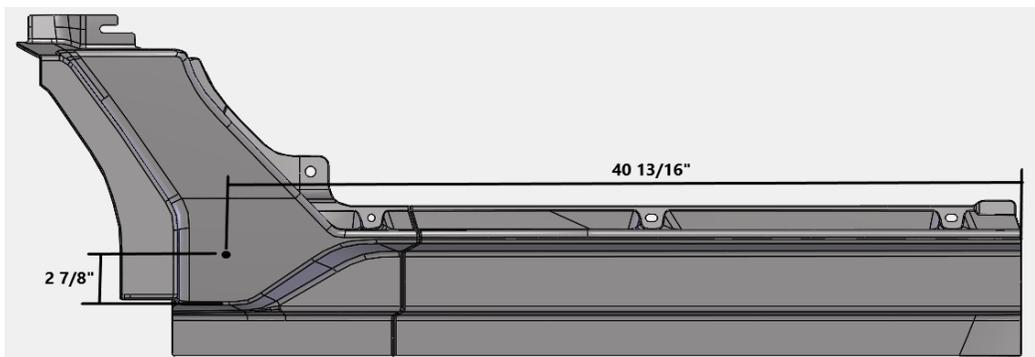

Fig. 1 – Reference for Step 3 (Driver Side Shown)
3. Drill a 9/32" hole 40 13/16" from the rear edge of the rocker panel and 2 7/8" from the bottom of the rocker panel for the 1/4" stud to pass through as shown in Fig. 1.